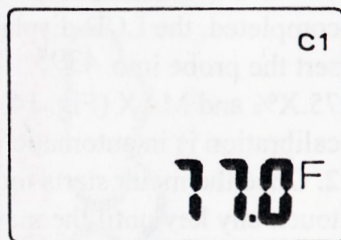

FIG 16
2. Press PRG key, it will display 77.0°F as Fig. 16 with 7 flashing. C1 means we are in low temperature alarm setting screen.